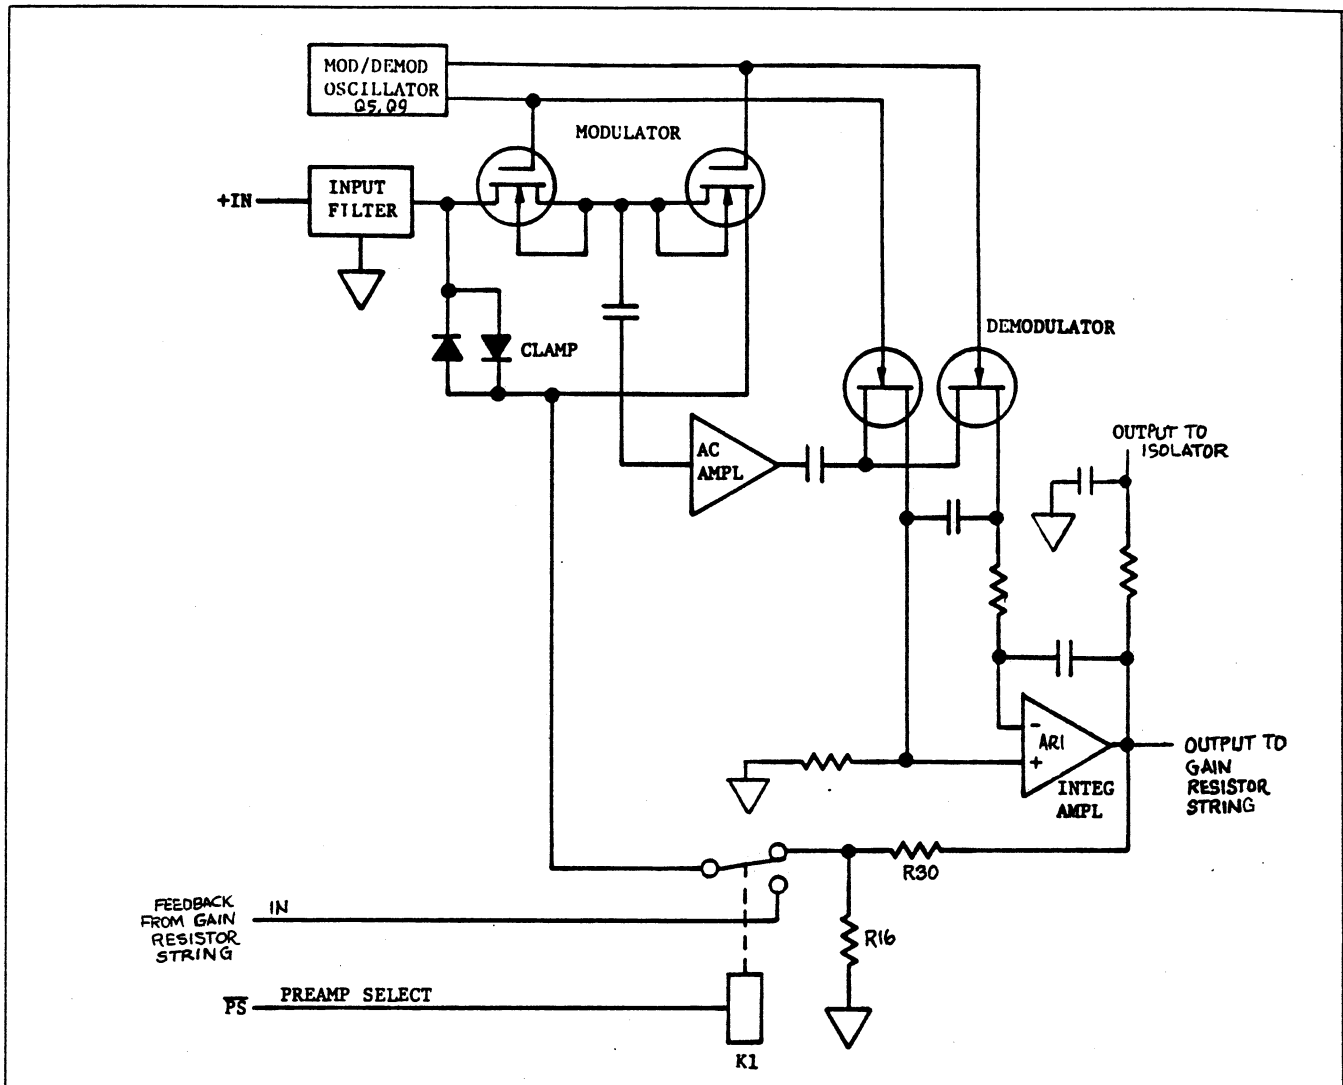

Figure 5.19 - Preamplifier
**5.3.5.7.1** The Preamplifier (Figure 5.19) provides a signal gain of 725 in the 10 mV and 1Ω ranges. The circuitry consists of a modulator, demodulator, oscillator, integrating amplifier and AC amplifier.